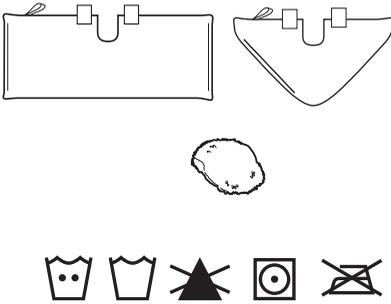

fig. 27
- 1 We recommend washing your micro-fiber cleaning pad and bonnets separately from other fabrics to avoid picking up lint. **Only use liquid detergent (no powder detergent). Do not use any fabric softeners or bleach.** Line dry or dry on a low dryer setting. (fig. 27)